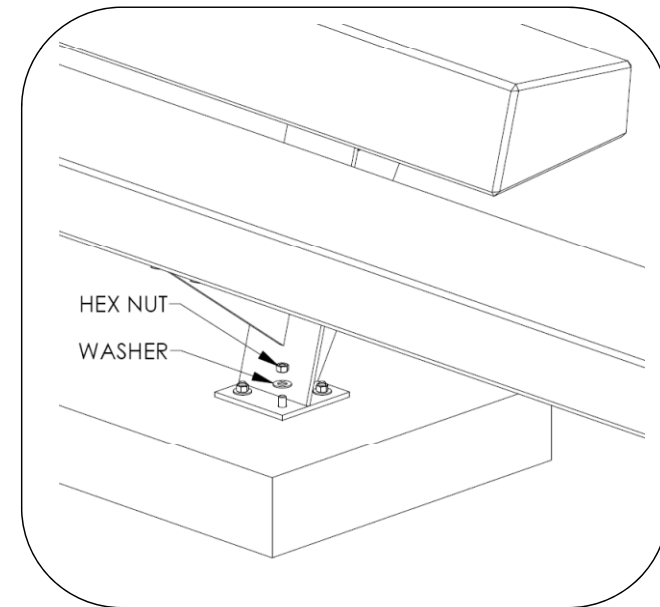

Fig. 6 – Set bench
10. Install washers and hex nuts and tighten fully, as shown in Fig. 6.